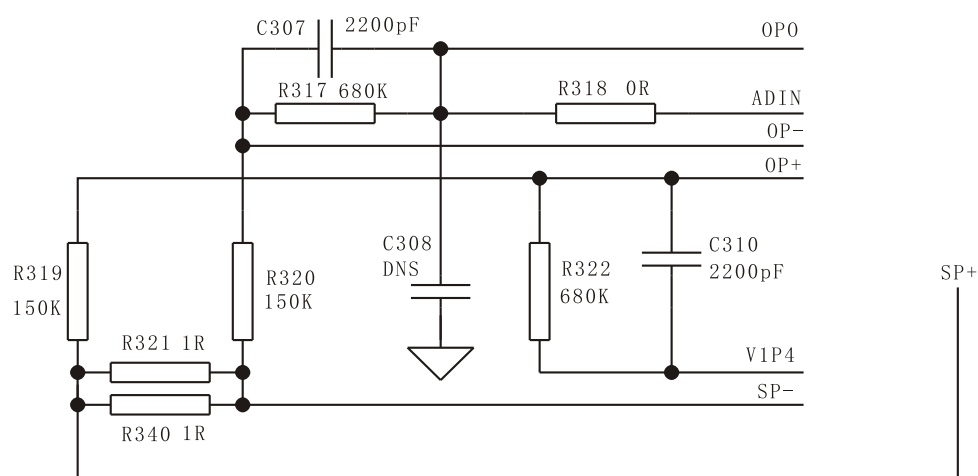

Figure 3.2.3.1 Main axis braking control circuit diagram
1. Main axis braking control circuit is shown as the following figure 3.2.3.1:
The equivalent circuit is shown as the following figure 3.2.3.2: